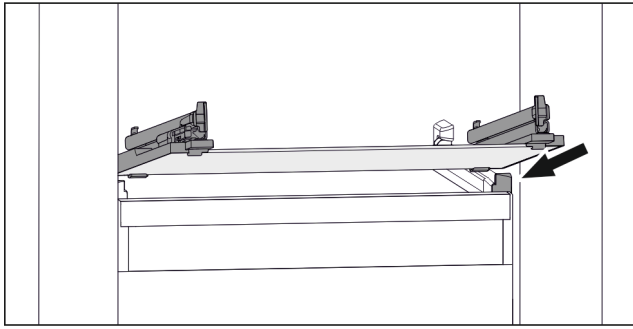

Fig. 125 Example illustration of glass shelf
- ▶ Position glass shelf at an angle behind the stoppers. (see Fig. 125)